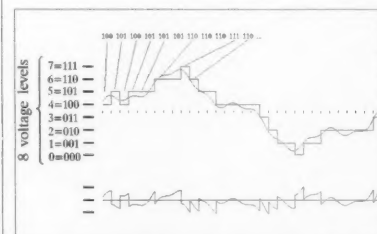

Fig. 6. Calculation of error and signal-to-noise.
To see what this means, let's suppose that we have a converter which has a three-bit output; it can therefore detect eight (2^3) different voltage levels. Look at Fig. 6 to see what this would mean.
eight levels are labeled with their binary equivalents, from 000 for the lowest to 111 for the highest. The output from the ADC would therefore be the series of numbers 100, 101, 100, 101, 101, ... as shown at the top of Fig. 6.
In other words, the gradual changes in the input voltage that occur between samples are ignored; the ADC only sees the signal as it exists at the instant it is sampled. As far as the ADC is concerned, the signal might as well be the squared-up wave that is shown superimposed over the analog signal in Fig. 6. When the digital signal is eventually converted back to analog, we will get this squared-up signal, but the filter circuit in the output will round off the sharp corners.
The bottom curve in Fig. 6 plots the difference between the original analog signal, and the squared-off quantized signal that the ADC thinks it sees—this is the noise or distortion. Let's try to compute its size in terms of the voltage steps that the ADC can detect.
The maximum peak-to-peak amplitude of the original analog signal is eight divisions. The error signal at the bottom of Fig. 6 has a maximum peak-to-peak amplitude of two divisions. But notice that this signal has very sharp tips at its maximum and minimum points; after the filtering that occurs at the end, those peaks will be rounded off, and the peak-to-peak amplitude of the error will be less than one division peak-to-peak.
For example, in Fig. 6, we saw that the first few quantized steps in binary were 100, 101, 100, 101, 101, 101, 110, 110, 110, 111, 110, etc., each of which required three bits. In decimal, these are the numbers 4, 5, 4, 5, 5, 6, 6, 6, 7, 6, etc. Once we know the first value (4), we can specify the others by giving only the differences from the previous number. For example, the second number is 101 or 5, which is the previous number (4) plus 1, so we would write +1. The sequence would then be +1, -1, +1, 0, 0, +1, 0, 0, +1, -1, which would require fewer bits than expressing